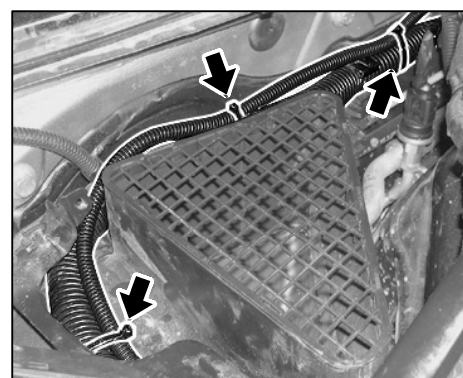

Figure 34
- 4.7.6 Secure line from retrofit kit to the wire harness at the side of the vehicle with tie-wraps ⇒ *Figure 34 -arrows-*.
- 4.8.2 Press dummy seal ⇒ *Figure 34 -A-* into chamber 3.